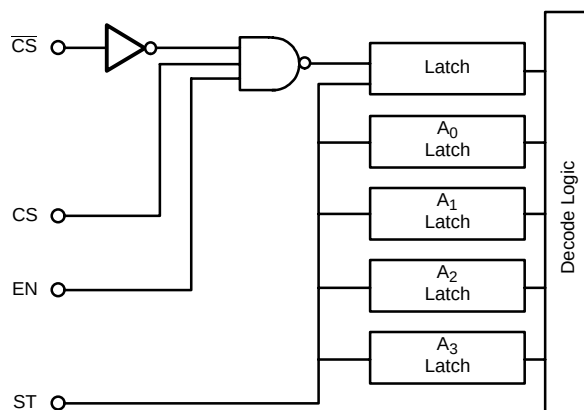

FIGURE 11. $\overline{CS}$, CS, EN, ST Control Logic
All four address inputs have on-chip data latches which are controlled by the Strobe (ST) input. These latches are transparent when Strobe is high but they maintain the chosen address when Strobe goes low. To facilitate easy microprocessor control in large matrices a choice of three independent logic inputs (EN, CS and $\overline{CS}$) are provided on chip. These inputs are gated together (see Figure 11) and only when $EN = CS = 1$ and $\overline{CS} = 0$ can an output switch be selected. This necessary logic condition is then latched-in when Strobe (ST) goes low.